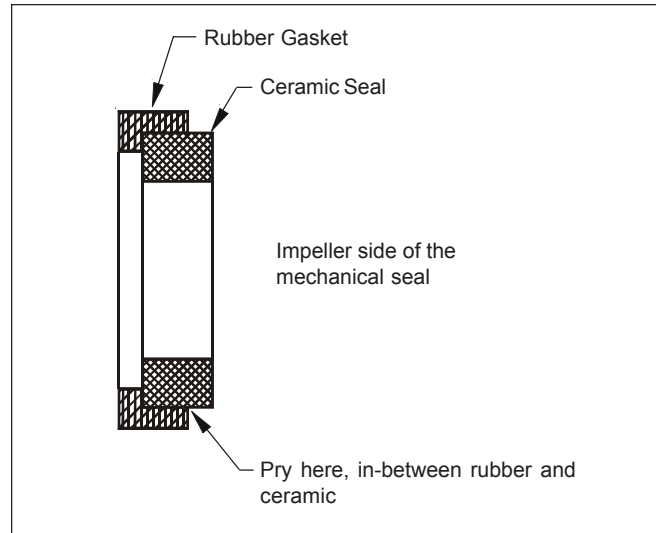

Figure 5. Mechanical Seal Replacement
2. Remove the ceramic seal from the impeller first, by prying between the ceramic and the rubber gasket working in a circle, then remove the rubber seal. Do not pry between the rubber and the plastic impeller, as this will damage the impeller (See Fig. 5).